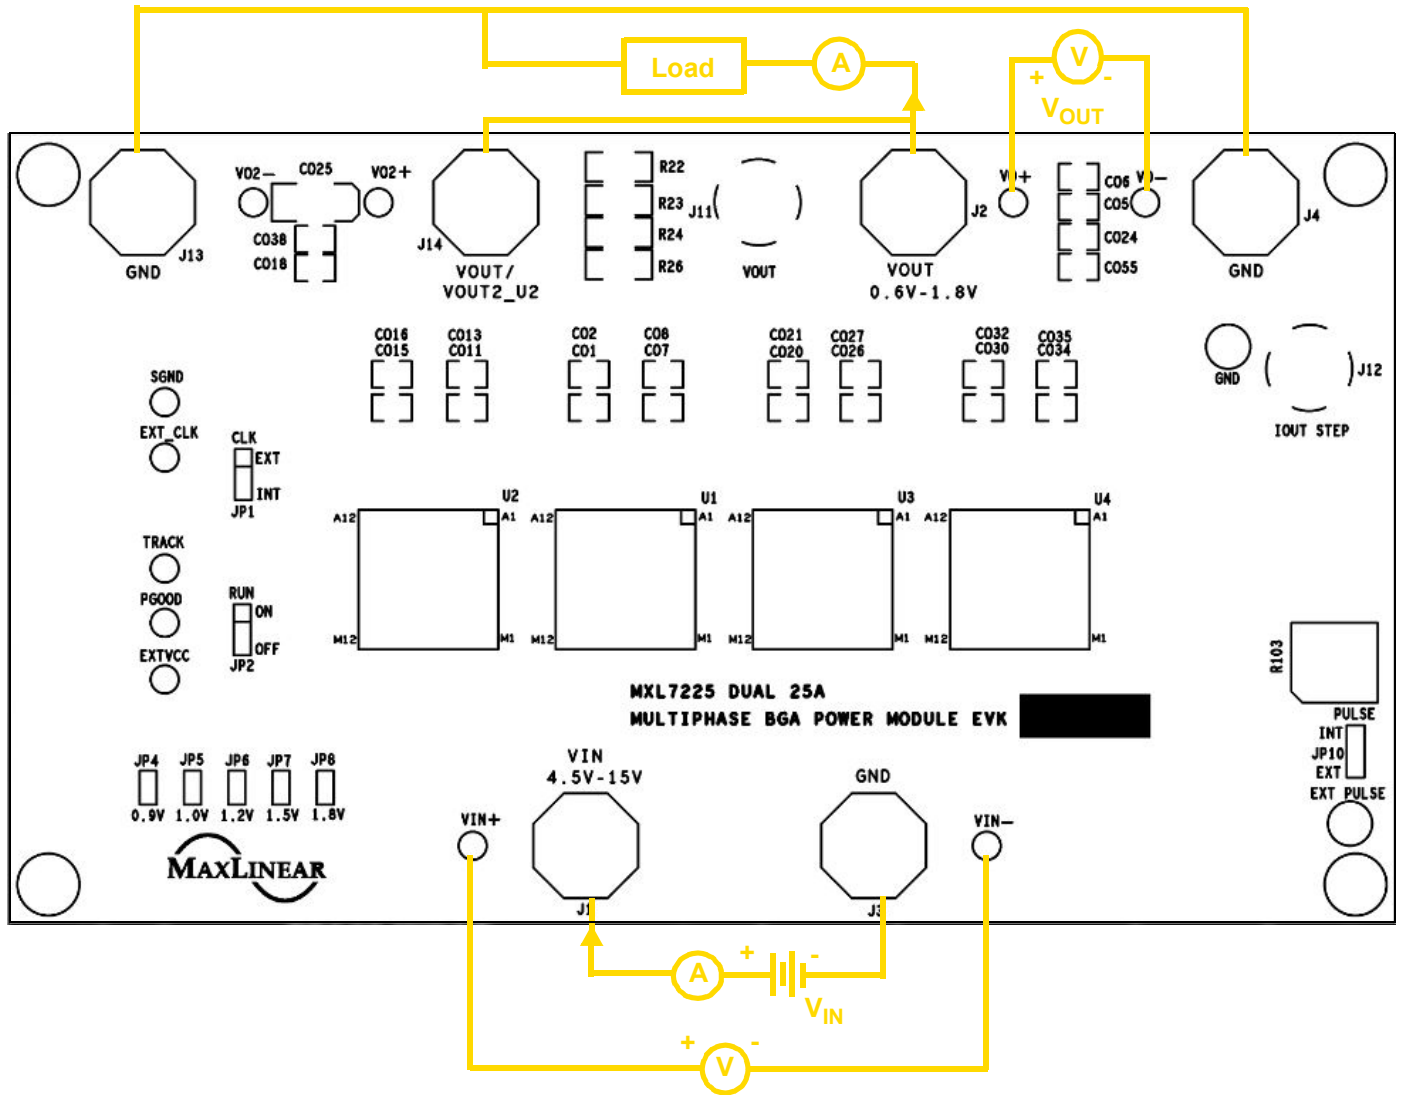

Figure 1: Monitoring V_{IN} and V_{OUT}
| Figure 1: Monitoring V_{IN} and V_{OUT} | 2 |
2. With a power supply turned off and within a V_{IN} specification of 4.5V to 15V (12V typical), connect it to VIN and GND with short, thick leads. Use test pins VIN+ and VIN- to monitor VIN and GND respectively. See locations in Figure 1.
3. For the output, connect a meter and electronic load initially set to 0A, that will be no more than the above maximum I_{OUT} (200A), to VOUT and GND with short / thick leads capable of this current. See setup and locations in Figure 1.